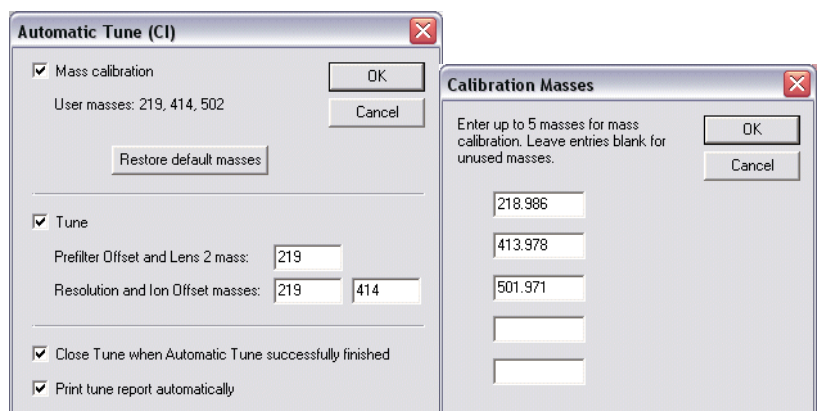

Figure 1-31 CI Automatic Tune - PICI Tests
- b. Make the selections illustrated in Figure 1-31 CI Automatic Tune - PICI Tests.